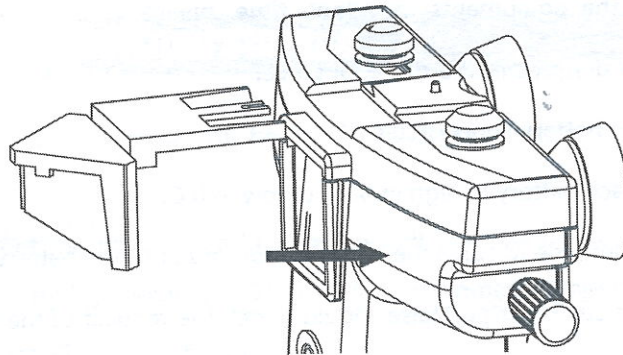

Fig.6
4.3 Assembling the teaching mirror(Fig.6)